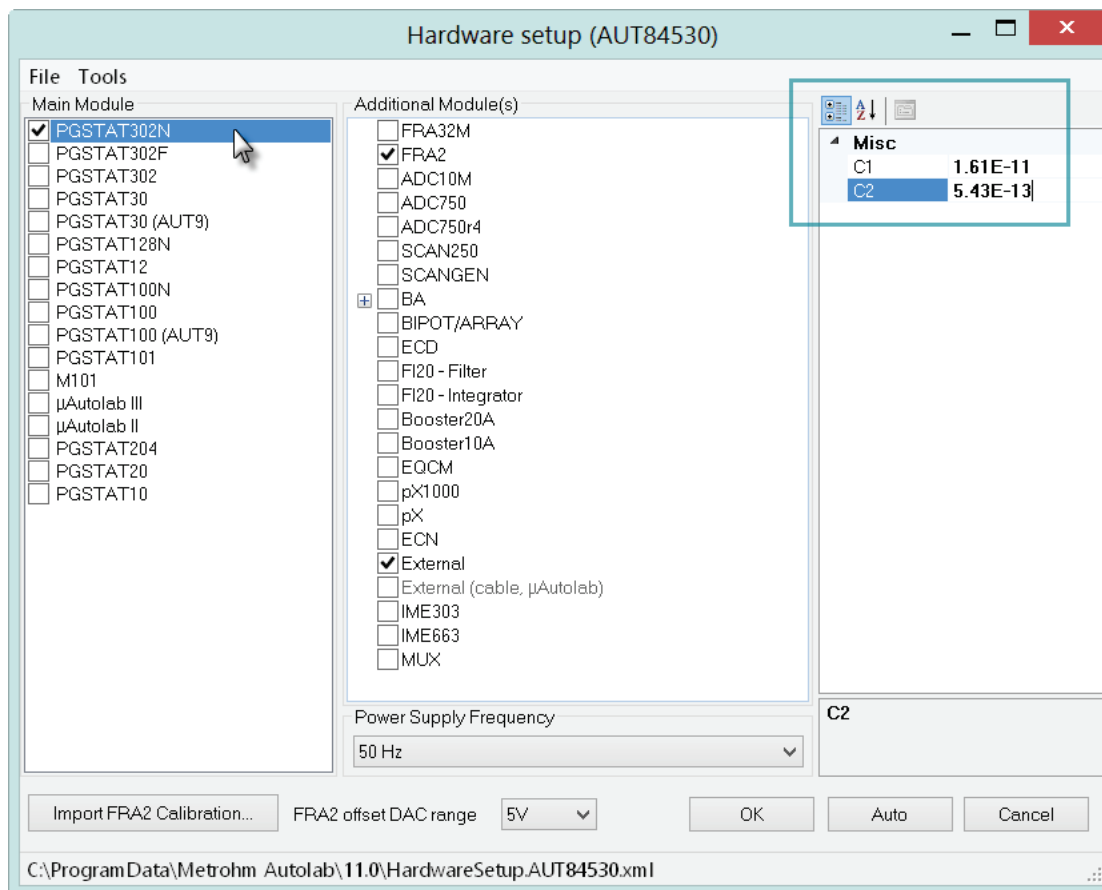

Figure 1.115 – Change the value of C2 to the value reported in the Message box
- Open the Hardware setup of Nova (Tools – Hardware setup). Select the instrument type in the **Main Module** frame in the hardware setup window and adjust the value of C2 to the value reported in the Message box (see Figure 1.115).